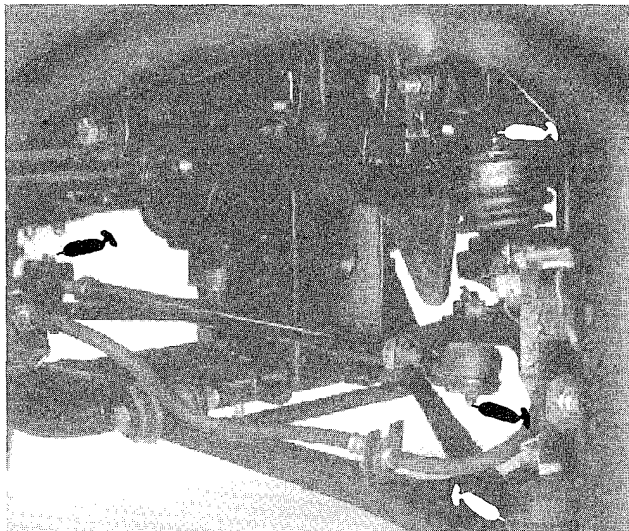
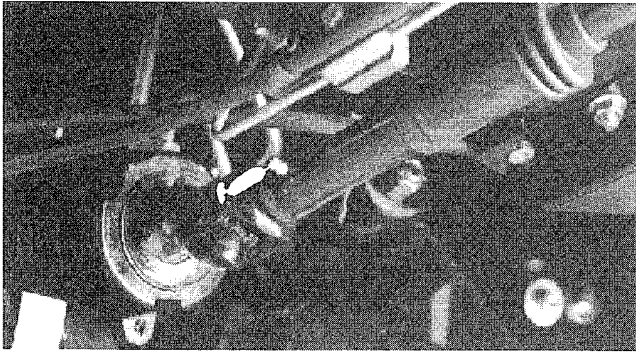
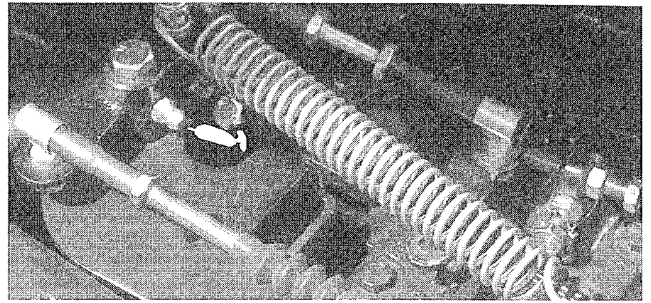

Figure 28
Figure 33
Figure 34
(Fig. 28–34)
The grease fitting locations and quantities are: Tie rod ends (4) (Fig. 28), Front ball joints (4) (Fig. 28), Rear drive shafts (18) (Fig. 29) Front pivot bushings (2) (Fig. 30); Mid drive shaft – 4 wd only (3) (Fig. 31); Pedal Pivots (4) (Fig. 32); Steering shaft (1) (Fig. 33) and Accelerator Arm (1) (Fig. 34).